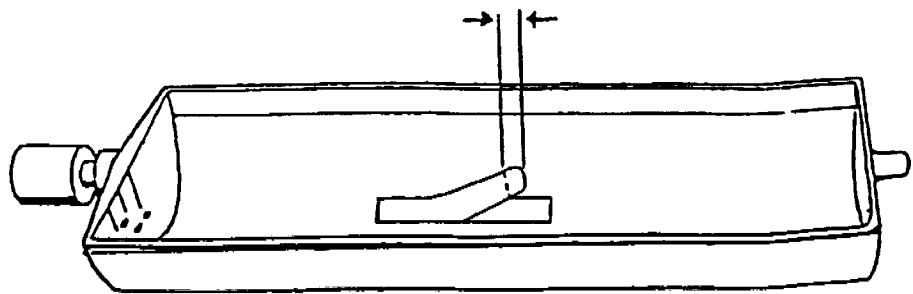

Figure 3
- B.) Measure 1/2" (12.7 mm) from the end of the retainer and mark. (See figure 3.)